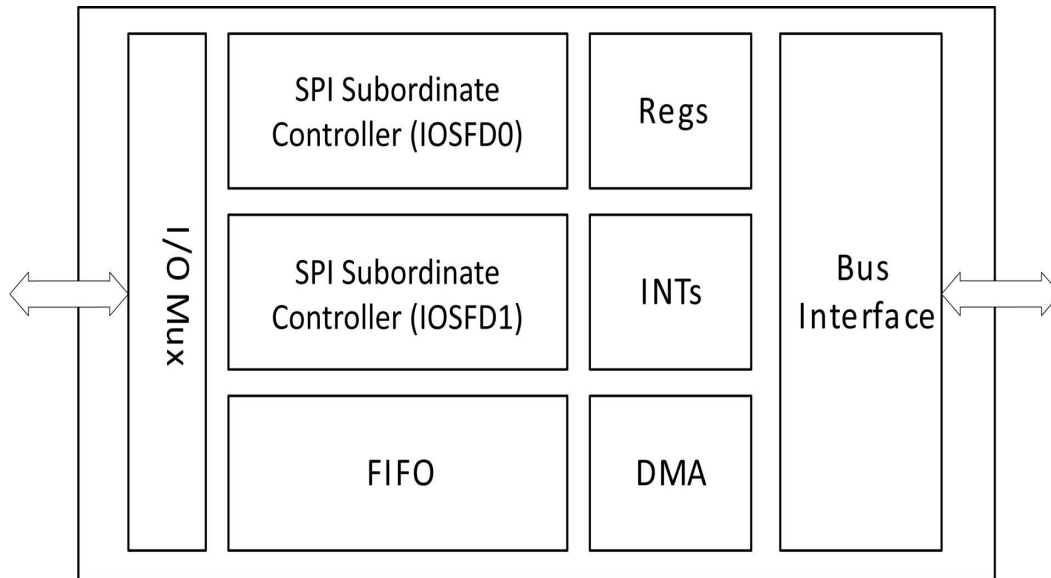

Figure 33. Full Duplex IOS SPI Subordinate Controller Pair (IOSFD0 / IOSFD1)
The Apollo510 Lite SoC includes two instances of the Full Duplex SPI Subordinate and both instances are designed to work in tandem to enable full duplex (FD) operation. Features of the controller pair are shown in Figure 33 and listed below.